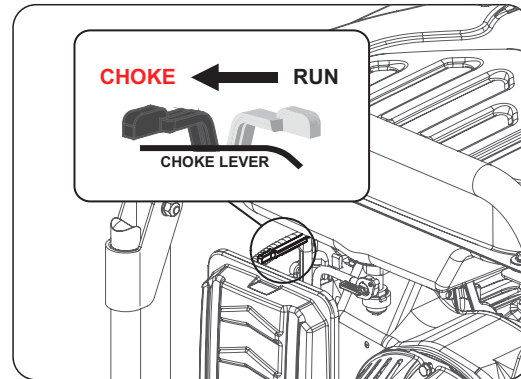

Fig 10 **SKIP THIS IF THE ENGINE IS WARM OR HOT.**
- Slide the choke lever to the “Choke” position. (See fig 10) **SKIP THIS IF THE ENGINE IS WARM OR HOT.**